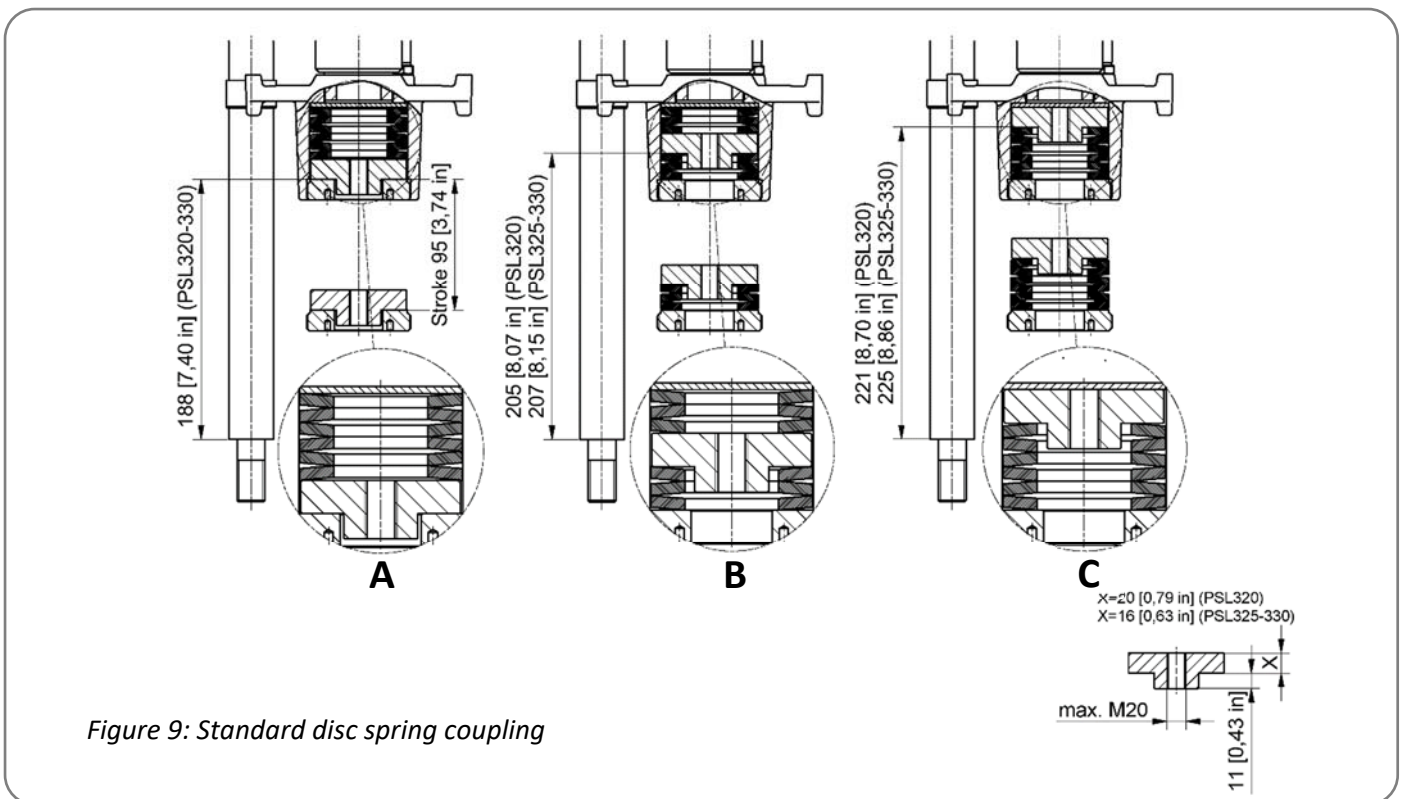

Figure 9: Standard disc spring coupling
- Unscrew the locking nut (item 5) from the spindle nut (item 1) and slide it over the valve stem (item 9).
- See if the bore of the coupling piece (item 3) fits to the valve stem. If necessary, rebores and/or recut the thread.
- Slide or screw the coupling piece onto the valve stem and bore or pin to the valve stem. You may also secure the coupling piece by using a counter nut (item 4) (Lay the disc springs according to Figure 9 on page 12).
- Slide the pillars into the bore holes of the mounting bracket (item 6) and tighten with the pillar nuts (item 7).
- A: Arrangement for a through-valve with "Valve stem retracting" as direction of closing (*Figure 9*).
- B: Arrangement for a 3-way valve (*Figure 9*).
- C: Arrangement for a through valve with "Valve stem extending" as direction of closing (*Figure 9*).